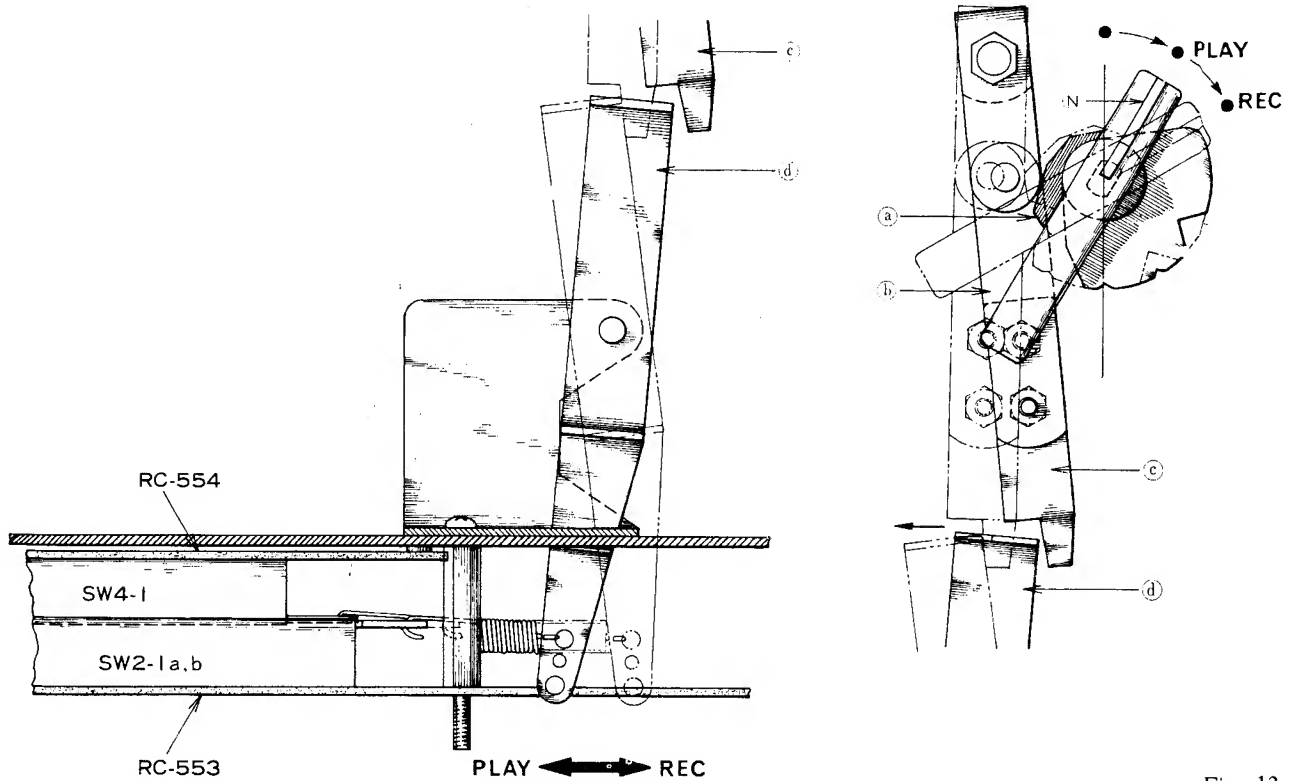

Fig. 13
When REC/PLAYBACK LEVER (N) is turned to REC position, CAM (a) pushes Recording Levers (b), (c), and (d) as illustrated by the dotted lines in Fig. 13. Then the RECORD/PLAYBACK CHANGE SWITCHES SW4-1 and SW2-1 a, b assume recording position.